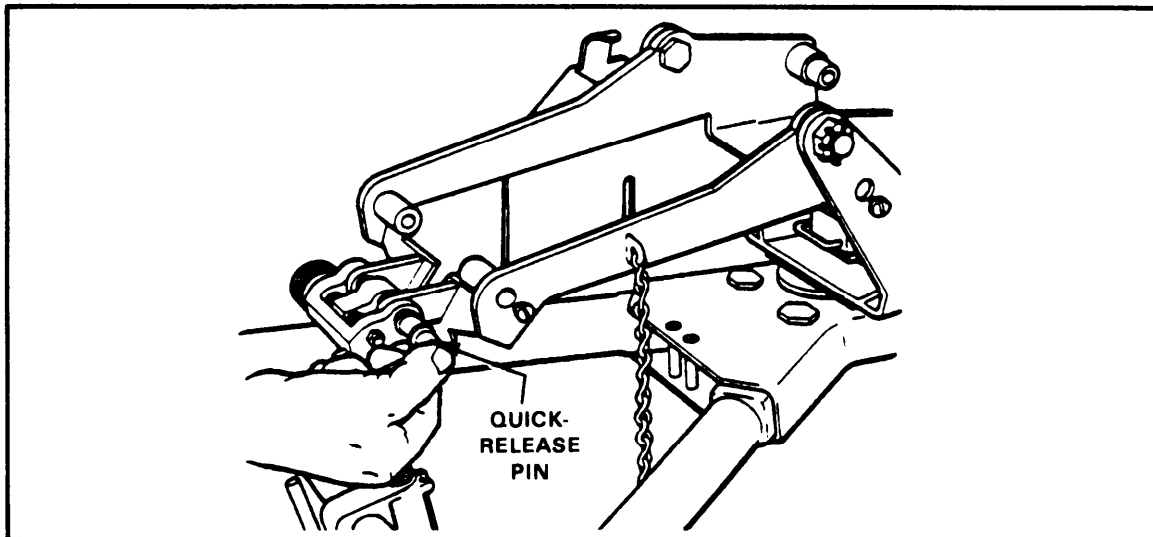

Figure 3-7. Quick release pin.
(5) Lock the elevating sleeve mechanism onto the center of the traversing bar.
(6) Insert the quick-release pin from the right (Figure 3-7).